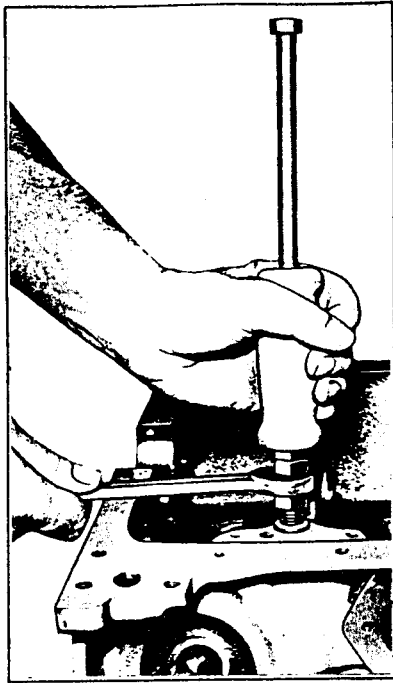

Figure 8-1-58
1. Install tool J9534-01 into bushing and using a slide hammer, remove the bushing (see Figure 8-1-58).